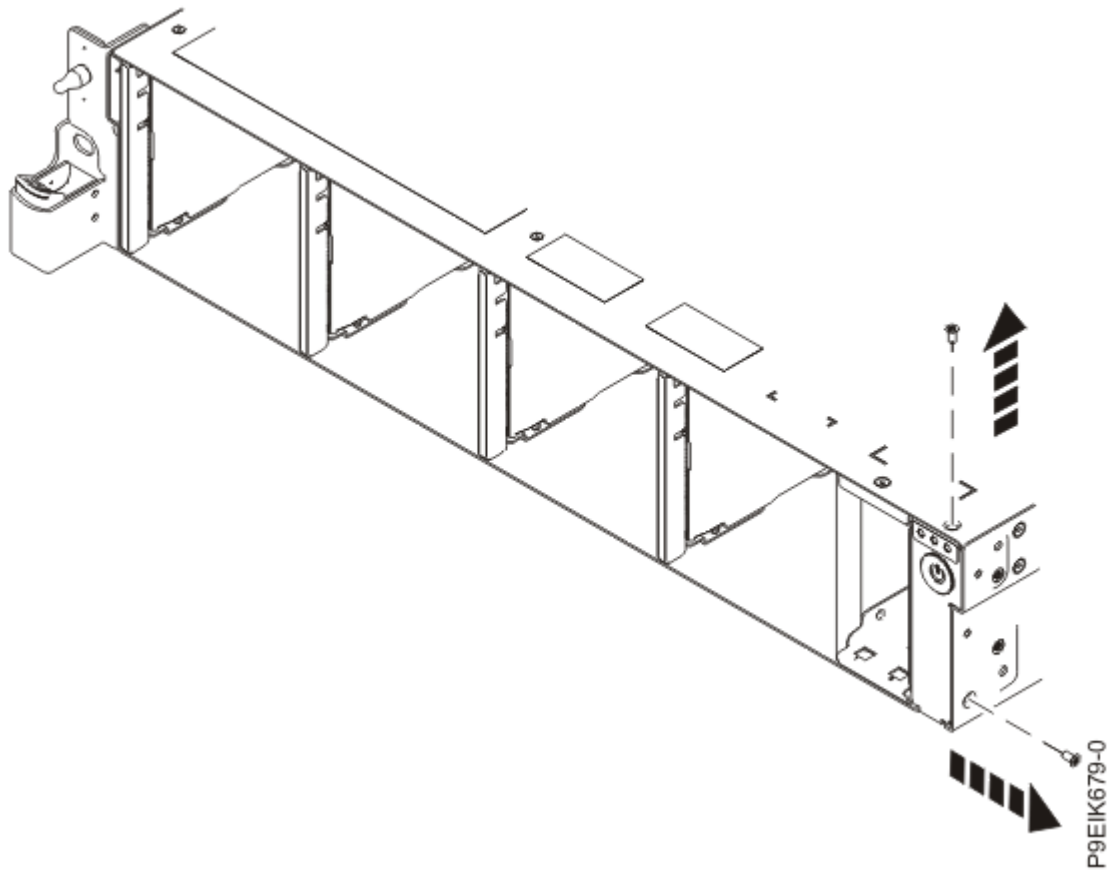

Figure 104. Remove the top and side screws
5. Remove the top and side screws from the power switch as shown in Figure 104 on page 118.